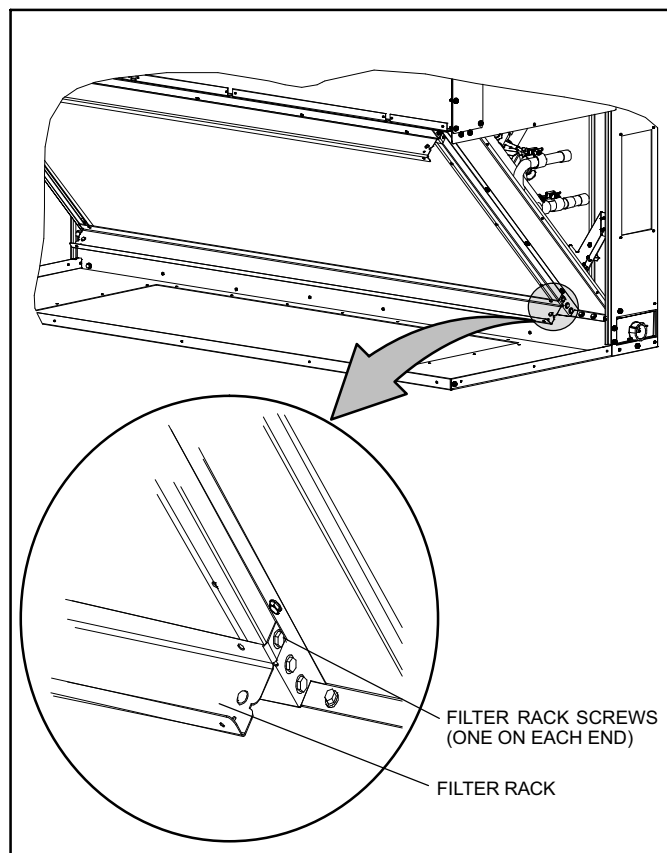

Figure 1. Filter Rack Screw Removal
4. Remove the two screws per filter rack (see figure 1).